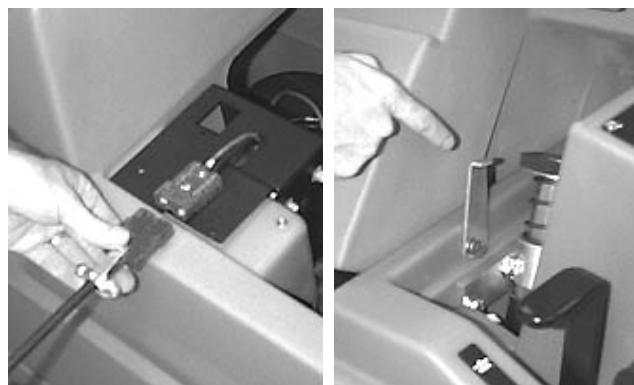

FIG. 24
5. With charger's power supply cord unplugged, connect battery charger into machine's charging receptacle as shown. Flip up tank support stand and rest tank on stand (Figure 24).